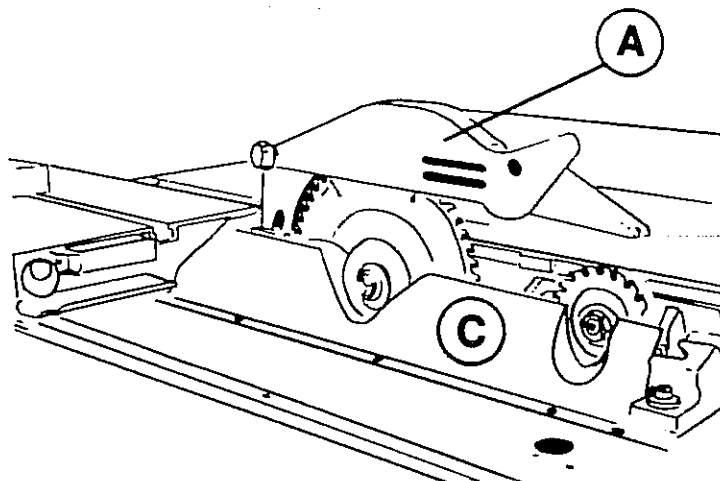

Fig. 16
After fitting the blade, apply on the riving hood (A fig.16) and bottom cover (C).